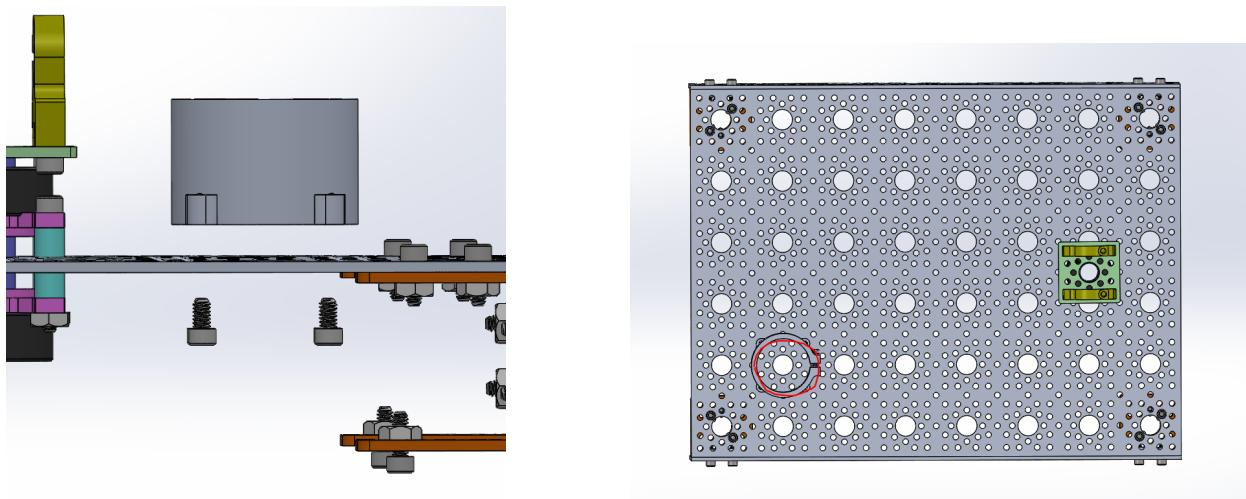

Figure 5: Attach the PVC clamp to top plate
3. **Attach the PVC clamping hub:** Attach the 1' PVC bore clamping hub **S24** to the top plate of the body using screws **B1**. Figure 5 shows where we chose to mount ours.